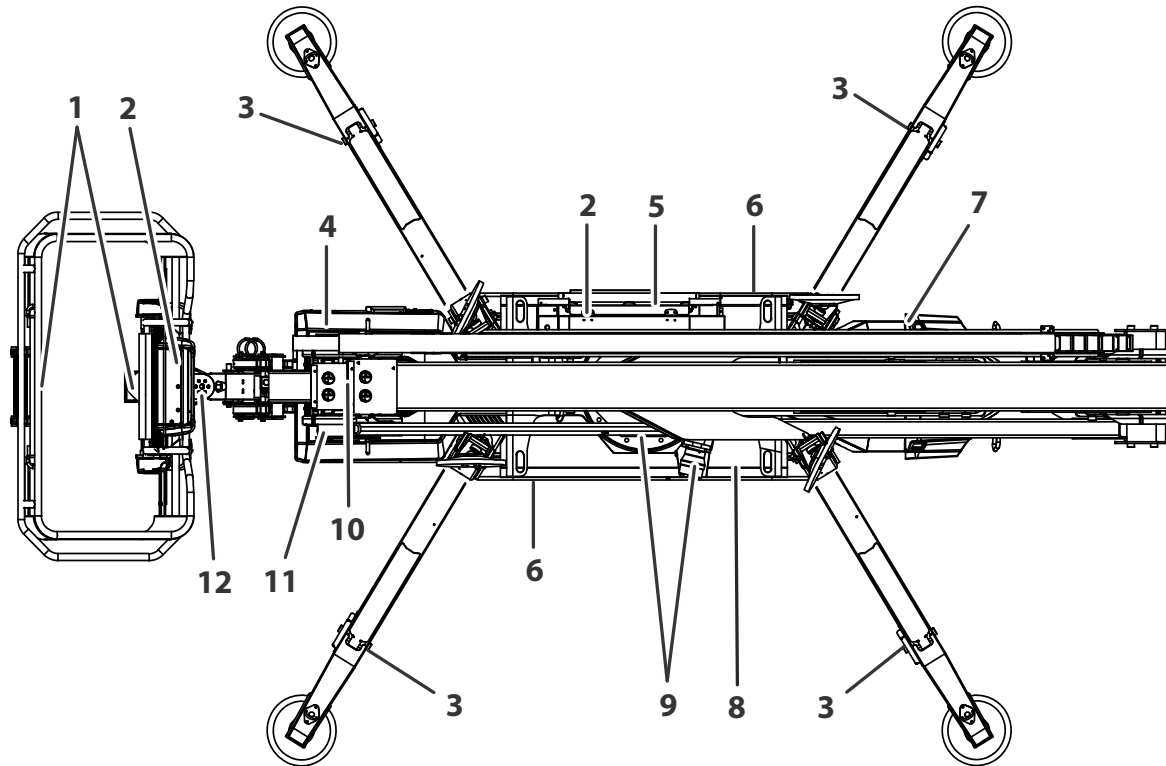

Figure 2-1. Walk-Around Inspection
5. **Walk-Around Inspection** – Refer to Figure 2-1.